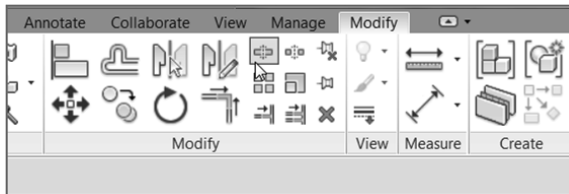

FIGURE 2.45: Using the Split Element command
1. On the Modify panel of the Modify tab, click the Split Element button, as shown in Figure 2.45.